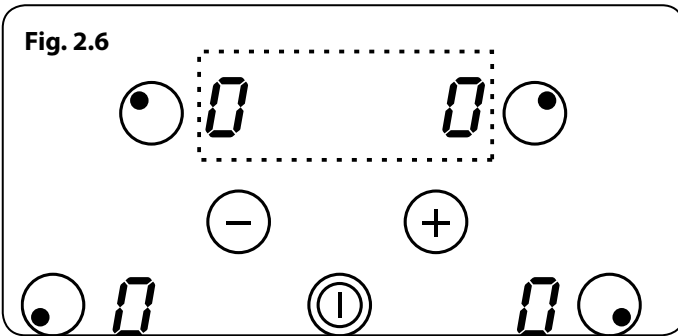

Fig. 2.7
2. To activate the timer on one cooking zone, select the required cooking zone, this is indicated by the flashing decimal point Fig. 2.7. Choose your desired power level.
Note: A static dot next to the power level will appear indicating that the selected zone is timed (Fig. 2.7).
1. Select the required cooking zone; the dot next to selected zone power level number will appear and flash (Fig. 2.7).